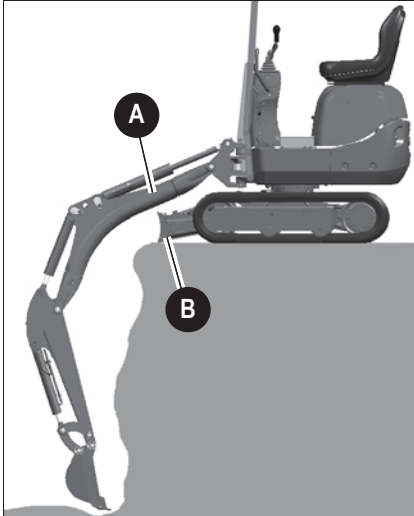

Fig. 185: Deep excavation
- If you perform deep excavations with stabilizer blade **B** at the front, ensure that boom **A** does not touch or rest on stabilizer blade **B** *(Fig. 185)*